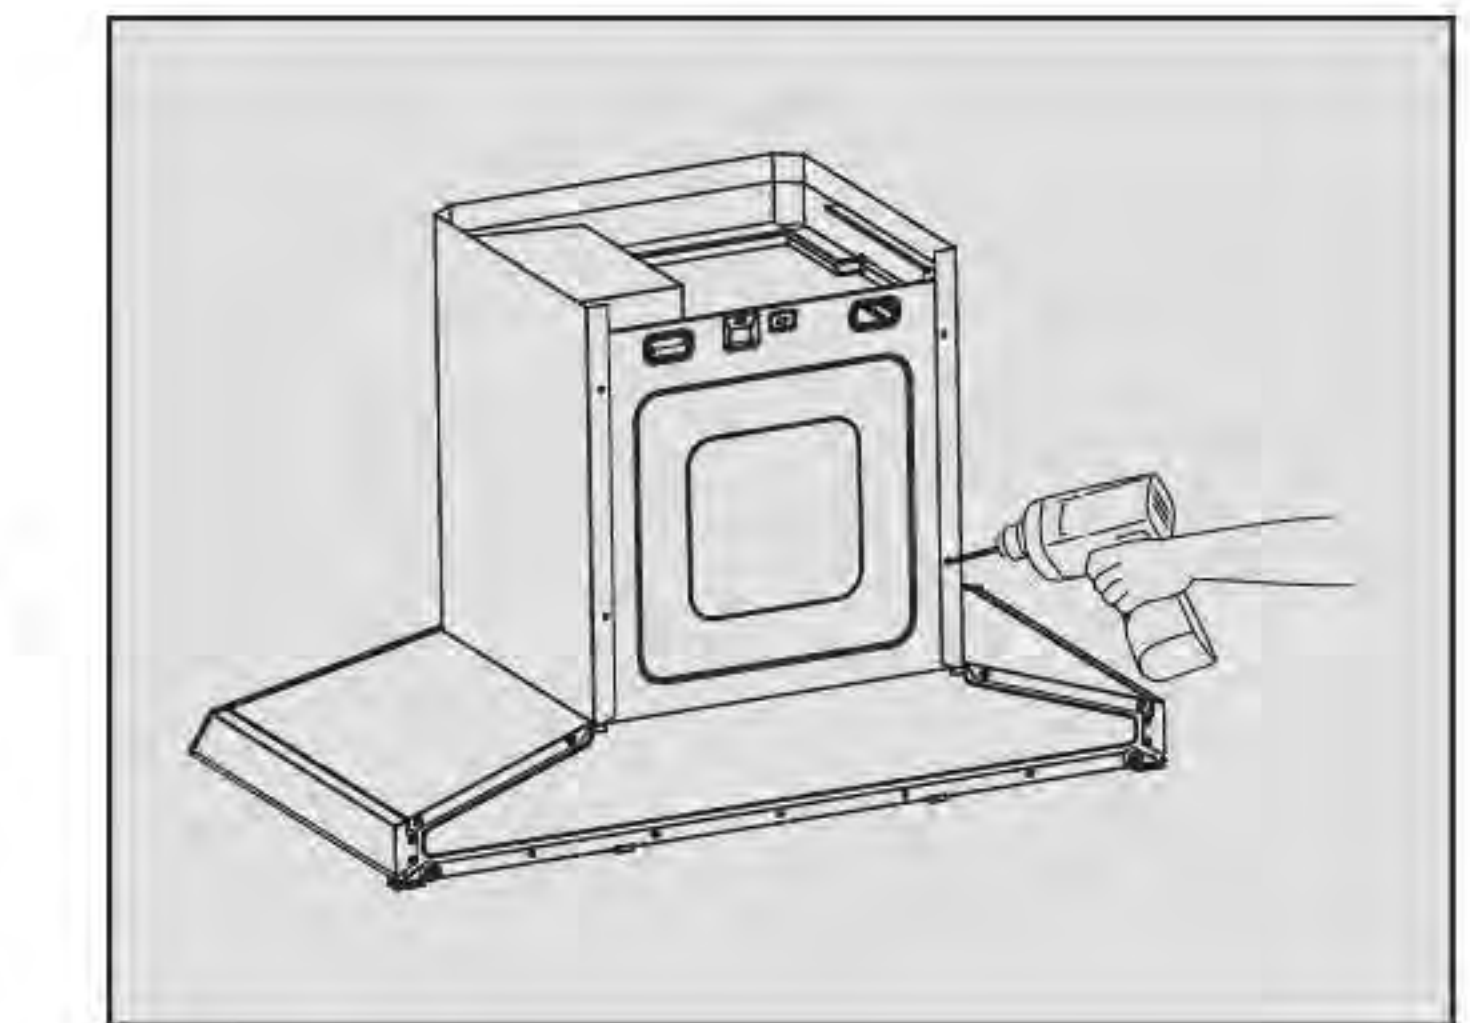
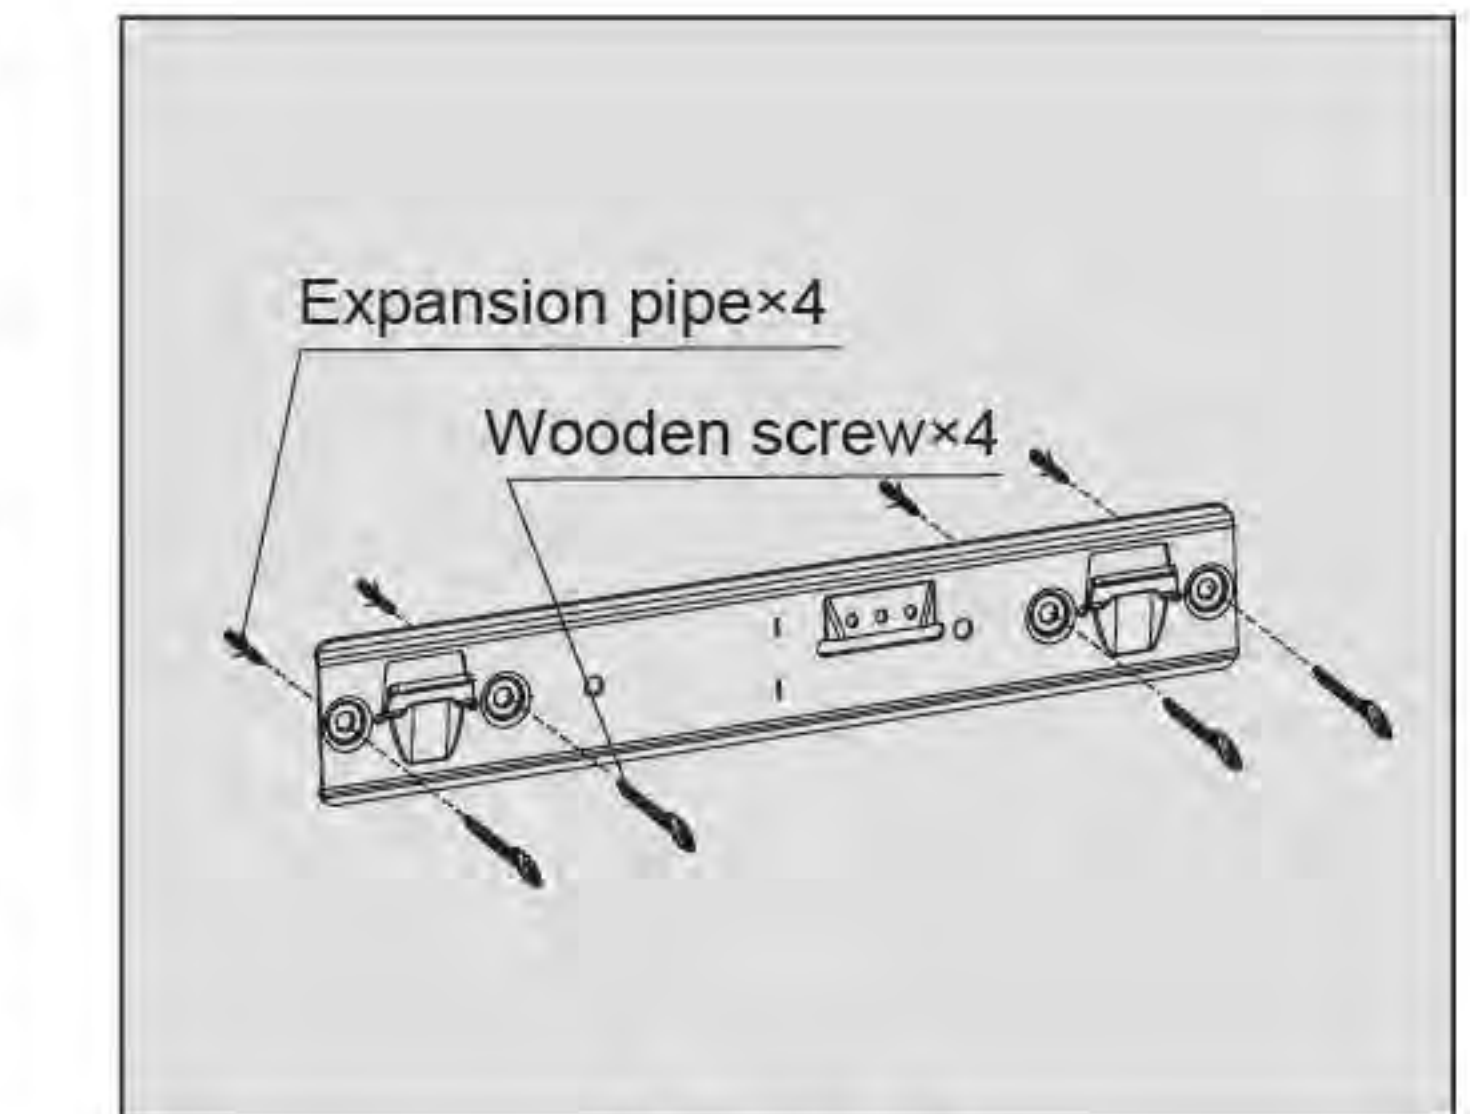

Figure 1
Figure 2
3. Refer to installation diagram, set the right position on the wall to drill and then firmly imbed the expansion pipe. Insert $\#10 \times 2 9/16"$ (ST5 $\times 65$ mm) wooden screws to tighten the fixed pothook and decorative cover pothook; then use two $\#4 \times 3/4"$ (ST2.9 $\times 19$ mm) Screws to fix the decorative cover on the suspended ceiling (see Fig 1 and Fig 2).